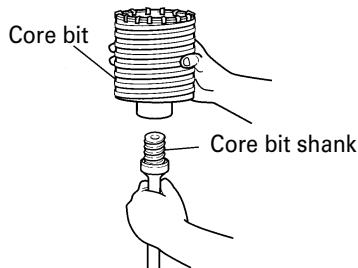

Fig. 11
- (1) Mount the core bit to the core bit shank. (Fig. 11)